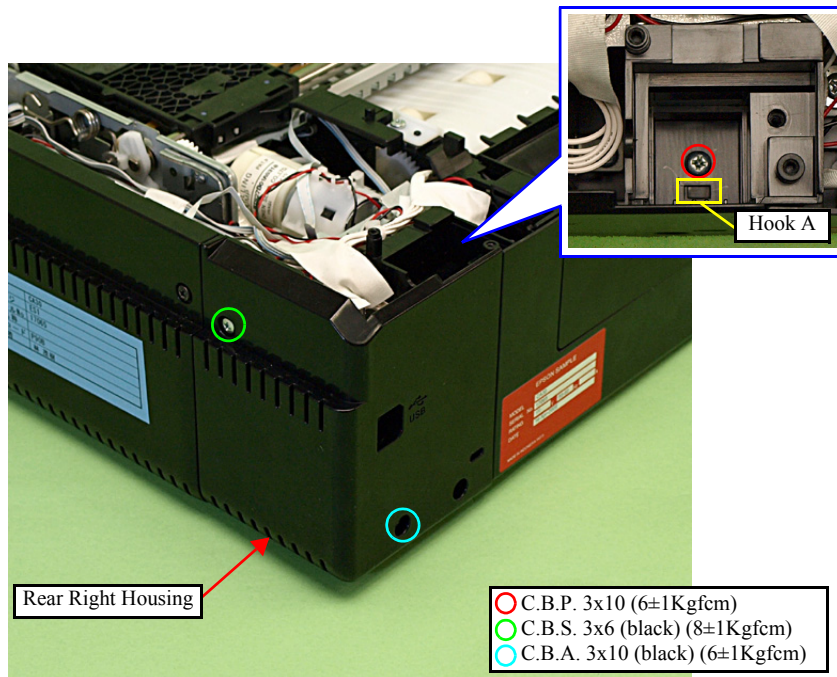
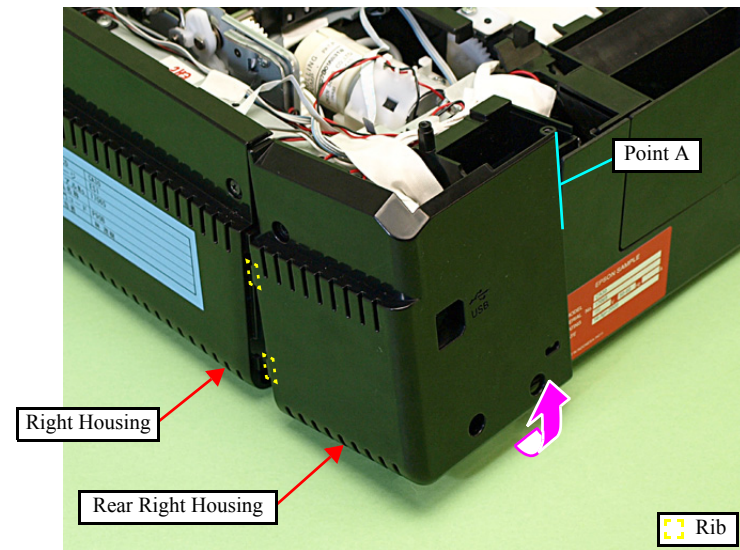

Figure 4-172. Removing the Rear Right Housing (1)
Figure 4-173. Removing the Rear Right Housing (2)
2. Release the ribs (x2) on the right side, and also release the hook A in Fig. 4-172, then remove the Rear Right Housing by lifting it in the direction of the arrow in Fig. 4-173.
- When installing the Rear Right Housing, insert the ribs (x2) of the Rear Right Housing to inside of the Right Housing. (See Fig. 4-173.)
- When installing the Rear Right Housing, align the point A of the Rear Right Housing with the inside of the Base Frame. (See Fig. 4-173.)